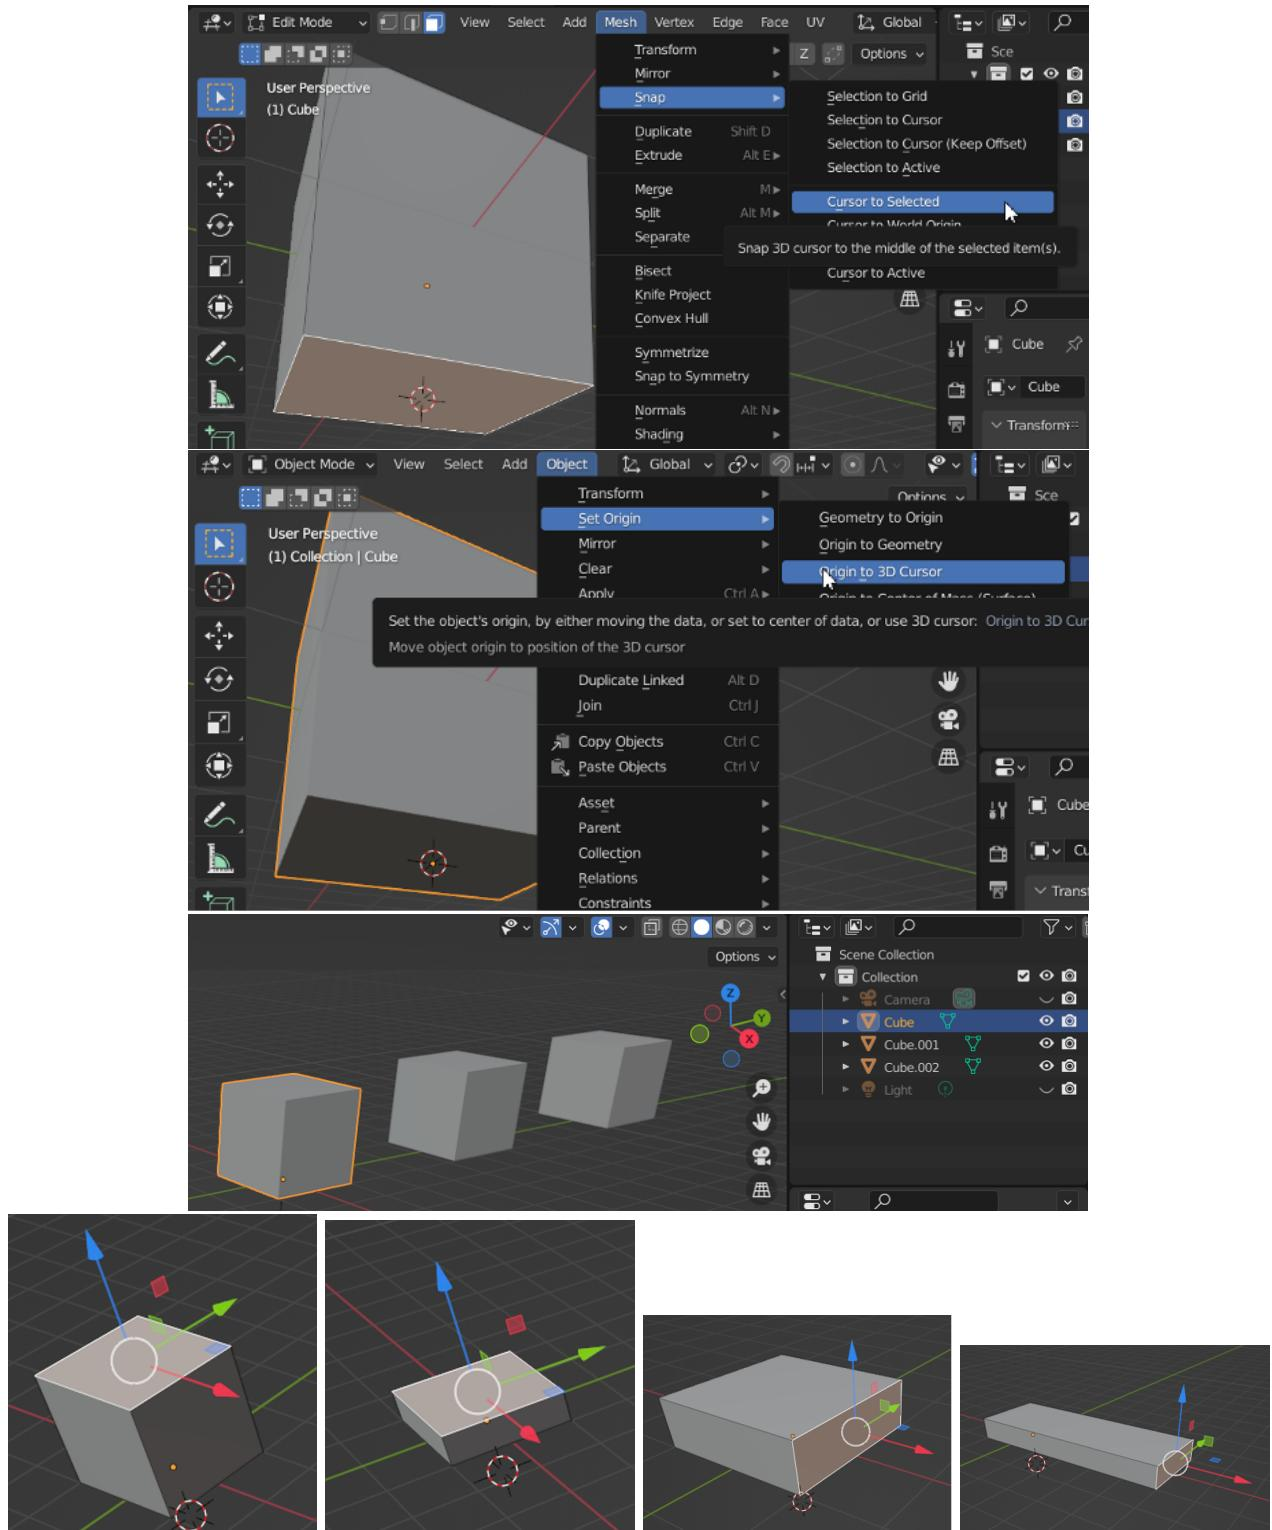

Figure 1.22: Modeling of the loco platform.
- (b) In face selection mode, use *Select/Tweak tool* to select bottom face, next, use *Mesh/Snap/Cursor to Selected* from the menu to set the cursor in the middle of the bottom face (see Fig.1.22, top row).
- (c) Switch to *Object Mode* and choose from menu *Object/Set Origin/Origin to 3D Cursor* to change the properties of the entire object by setting the transformation point at the cursor position (see Fig.1.22, second row).
- (d) Move the created cube to the (0,0,0) position, then, create two more copies of this cube placing them next to each other (see Fig.1.22, third row).
- (a) Scale-down the first cube in OZ direction, next scale-up in OX. Do not change the size in OY direction. See results in Fig.1.22 (bottom row).